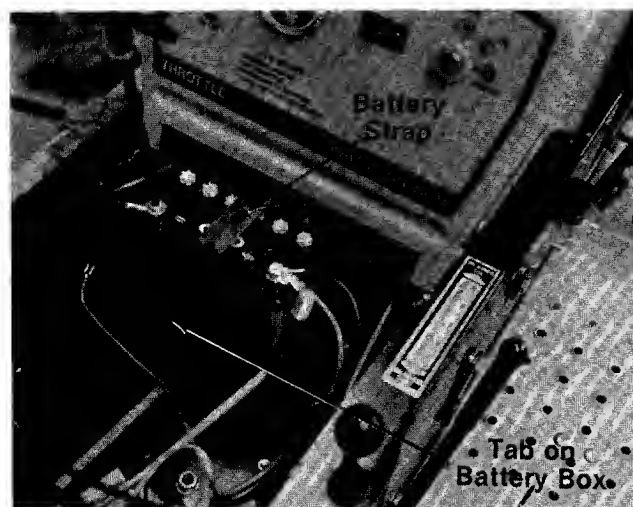

FIGURE 11.
6. Secure the battery to the battery box by stretching the battery strap across the battery. Loop the end around the tab on the side of the battery box. See figure 11.
7. Slide the square nut (provided with battery hardware) into the positive (+) terminal. Place the positive (heavy red wire) cable and the small red wire on the positive terminal. Secure with screw and lock washer provided. See figure 11.